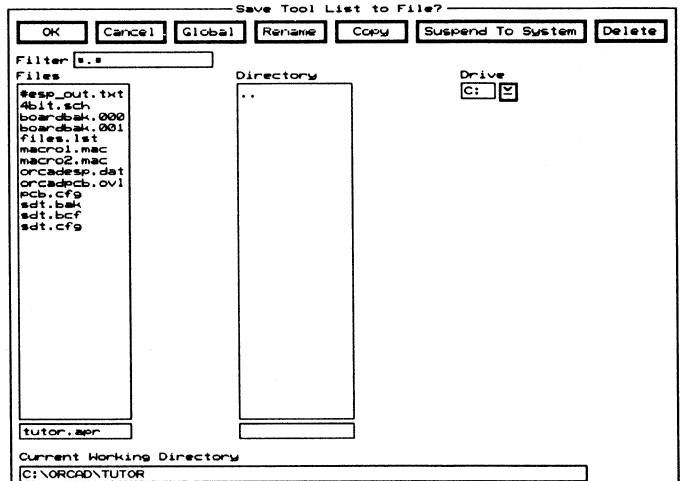

Figure 9-10. The **Save Tool List to File** dialog box.
3. Select **Save**. The **Save Tool List to File** dialog box displays (figure 9-10).